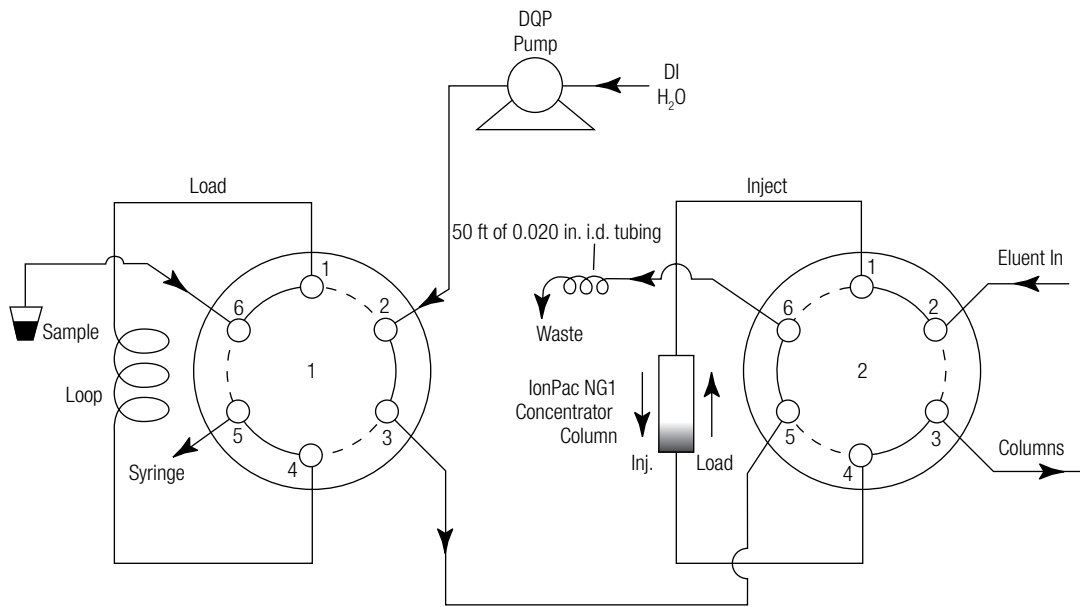
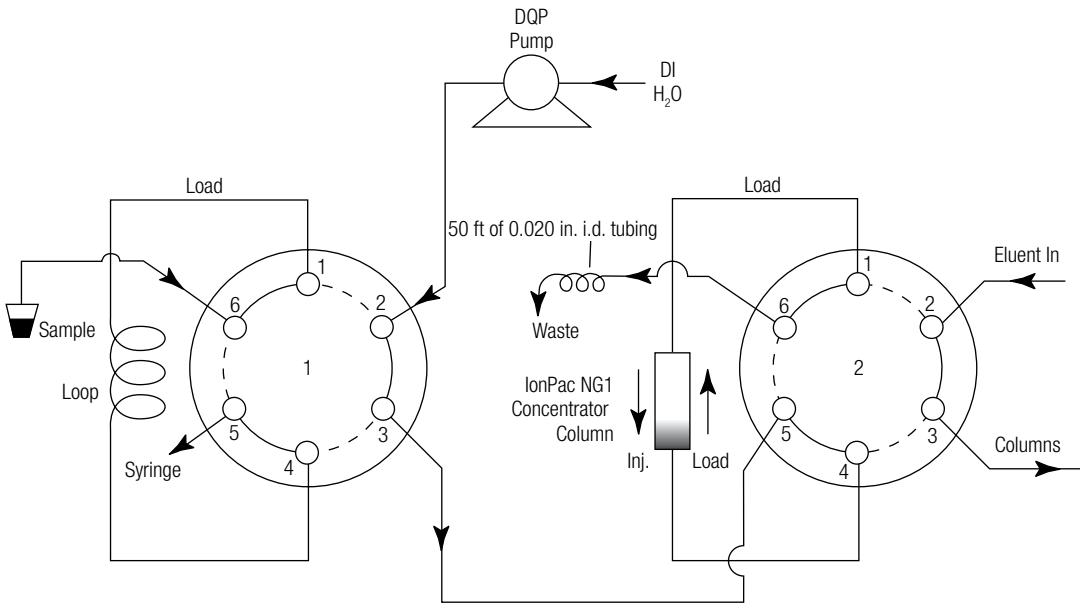

Figure 1A. Initial conditions.
Figure 1B. Loading the sample loop. Time: 0–1.10 min.
The sensitive analysis of the fluorochemical surfactant in an acid (HF) etch bath is accomplished in four steps: (1) fill the sample loop, (2) load the concentrator column, (3) eliminate the HF matrix, and (4) separate the surfactant. Figure 1 shows how the system performs these tasks. In Figure 1A, the system is in the standby mode, ready for sample analysis. In Figure 1B, Rheodyne® Valve 2 is switched to the load position. The sample is loaded with a syringe into the 100 μ L sample loop on Rheodyne Valve 1.
When using a syringe, the black rubber plunger in disposable plastic syringes can be a source of contamination. To minimize the introduction of sample contamination, pull rather than push the sample into the loop, as shown in Figure 1A. Be sure to pull slowly so that bubbles will not be introduced. The loop should be overfilled by at least 3 times its capacity (> 300 μ L) to ensure reproducible results.